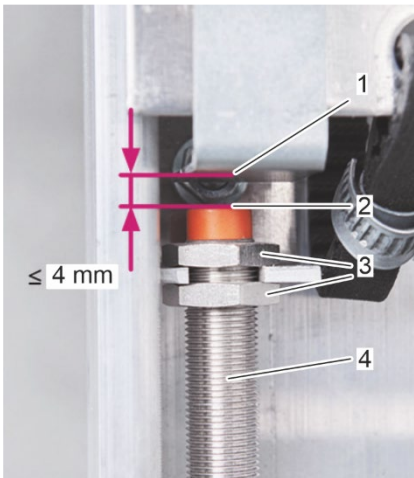

Fig. 37: Maximum switching distance
2. Ensure that the maximum switching distance of 4 mm between the proximity sensor (Fig. 37/2) and the cleaning carriage (Fig. 37/1) is maintained. Otherwise adjust the distance between the proximity sensor (Fig. 37/2) and the cleaning carriage (Fig. 37/1) using the thread (Fig. 37/4) and the nuts (Fig. 37/3) on the proximity sensor.